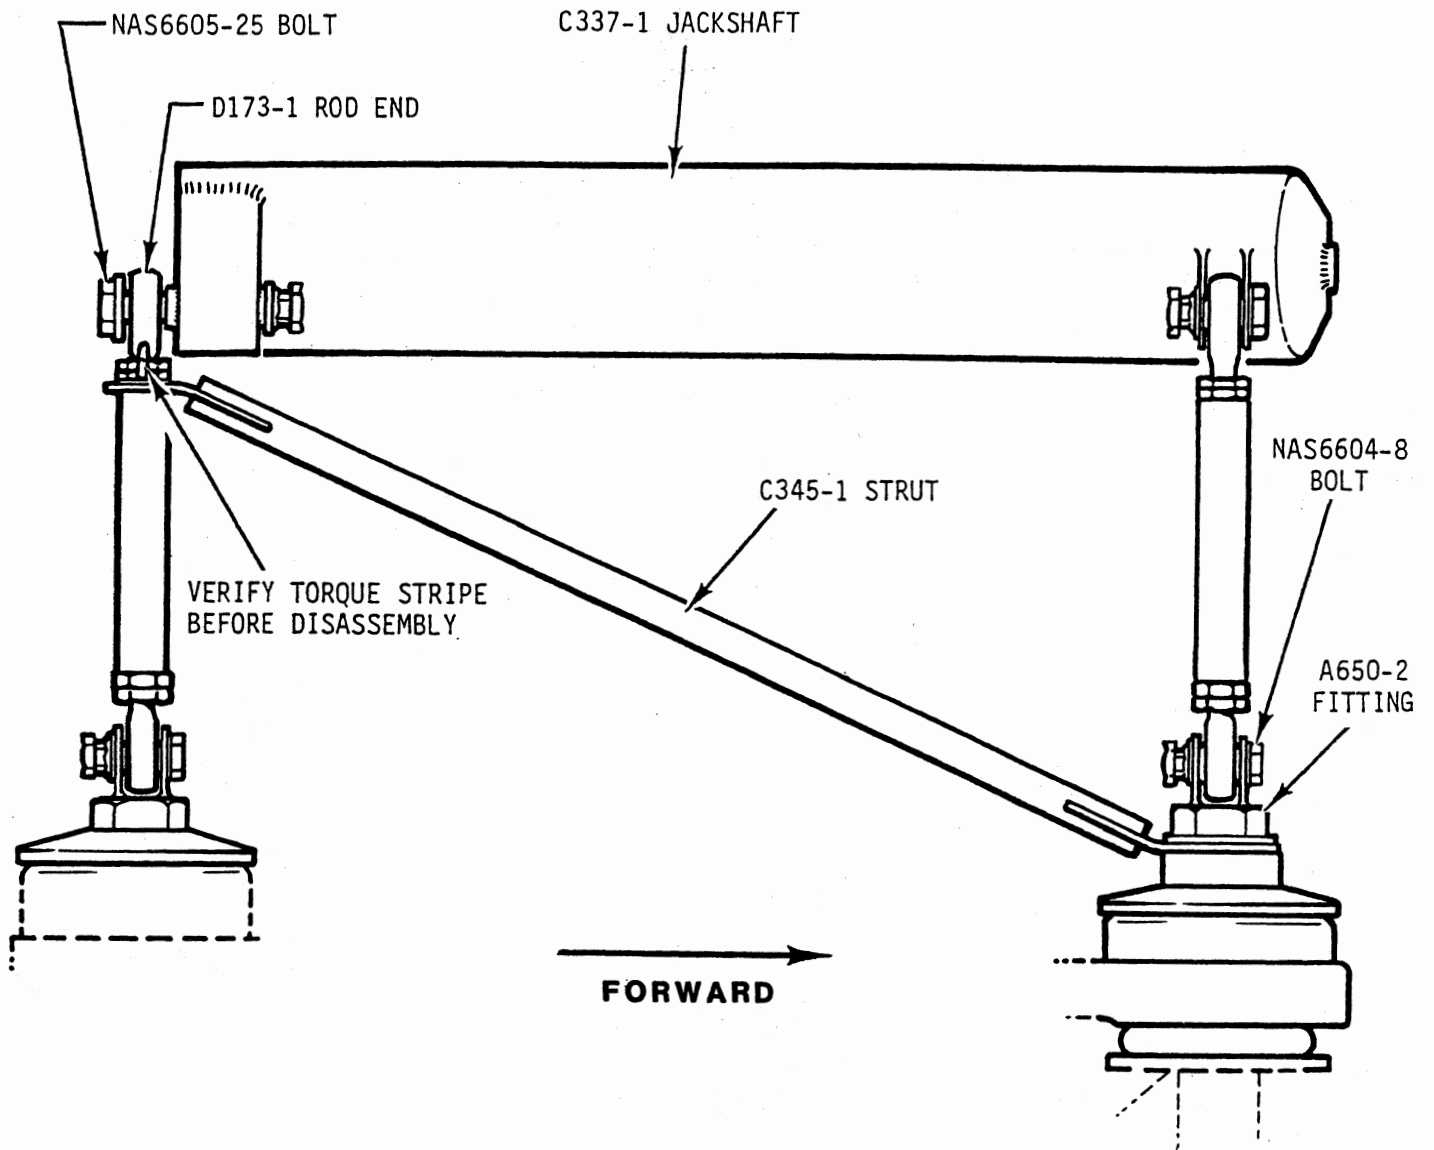

FIGURE 3
- 6) Before replacing C345-1 strut, verify that torque stripe is intact between D173-1 rod end and nuts at aft jackshaft support (see Figure 3). Add torque stripe if required to assure no rotation between rod end and nuts during disassembly.
- 7) To remove C345-1 strut, remove NAS6604-8 bolt through rod end at forward right hand main rotor gearbox mount and NAS6605-25 bolt from aft jackshaft support (see Figure 3). Remove D173-1 rod end at aft jackshaft support without unlocking nuts from rod end. Remove A650-2 fitting from forward right hand gearbox mount and remove C345-1 strut.
- 8) Install C345-1 strut supplied in KI-88 kit (see Figure 3 and figure 8-9 of MM). Torque all fasteners per Section 1.320 of MM. Unlock nuts from D173-1 rod end at aft jackshaft support if required to rotate for alignment and retorque.